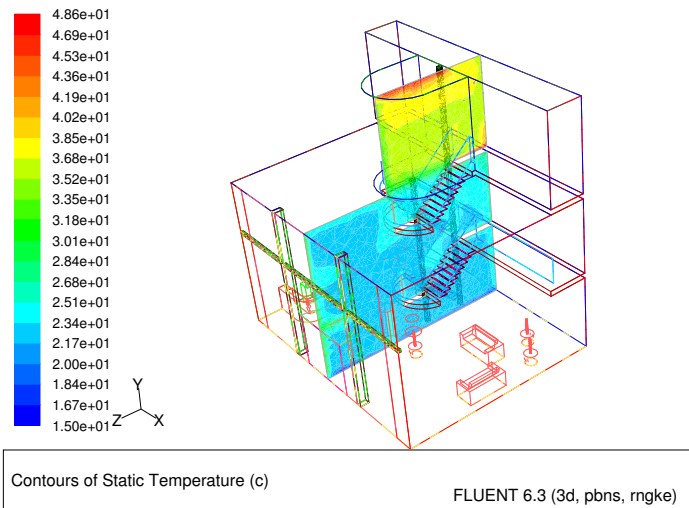

Figure 4: Contours of Static Temperature at  $x=3.5$
3. Display contours of Static Temperature at  $x=3.5$  (Figure 4).